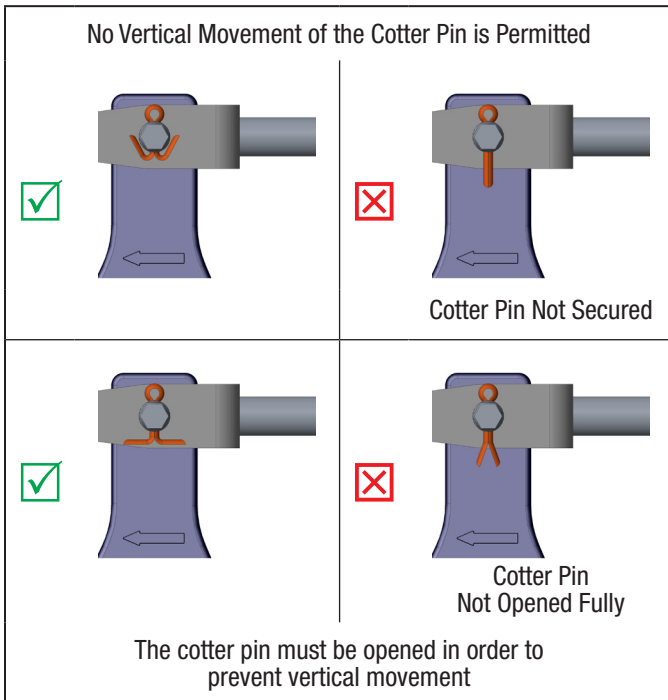

Figure 6 – Cotter Pin Installation Guide
5. Apply anti-seize compound or grease to the clevis pin; insert, and secure with a cotter pin. *Refer to Figure 6 for proper cotter pin installation.*
5. Apply anti-seize compound or grease to the clevis pin; insert, and secure with a cotter pin. Refer to Figure 6 for proper cotter pin installation.
Secure the cotter pins, as shown in Figure 6, ensuring that the cotter pins are opened fully.